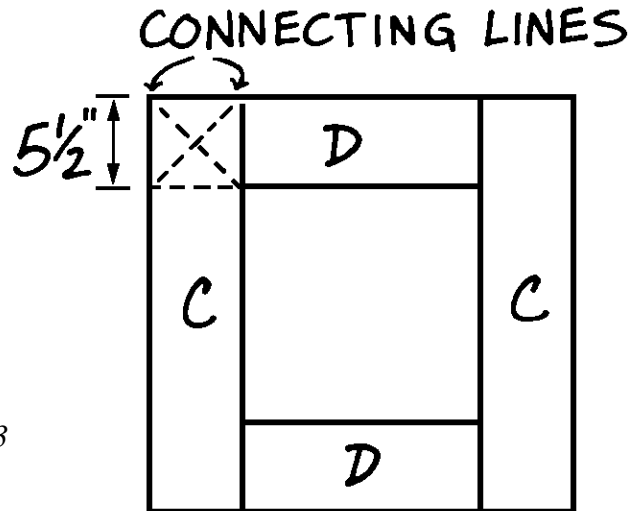

Figure 3
4. To add the four 20"-long legs, you must first center each one in a corner of the base frame. To locate the center point for a leg, draw a line across a long base piece (C) 5-1/2" from the end, as shown in *Figure 3*, to form a 5-1/2" x 5-1/2" square. Then draw two lines to connect that square. The intersection of these two lines is the center point for the leg.
5. Most purchased legs come with a metal screw in the center of the top of the leg. At the marked center point on the long base (C), drill a